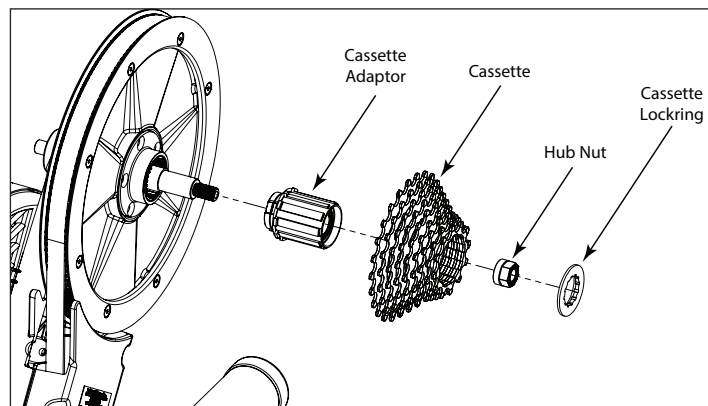

FIGURE 3.1
3. Remove the cassette rings from the cassette adaptor. (Figure 3.1)
5. Remove the cassette adaptor assembly. (Figure 3.1)
7. Install the replacement Campagnolo® adaptor onto the shaft and reinstall the 16mm hub nut. Tighten the nut to 2.5 N m (22 in-lb). (Figure 3.1)
8. Load the new Shimano®/SRAM® or Campagnolo® cassette onto the adaptor. (Figure 3.1)